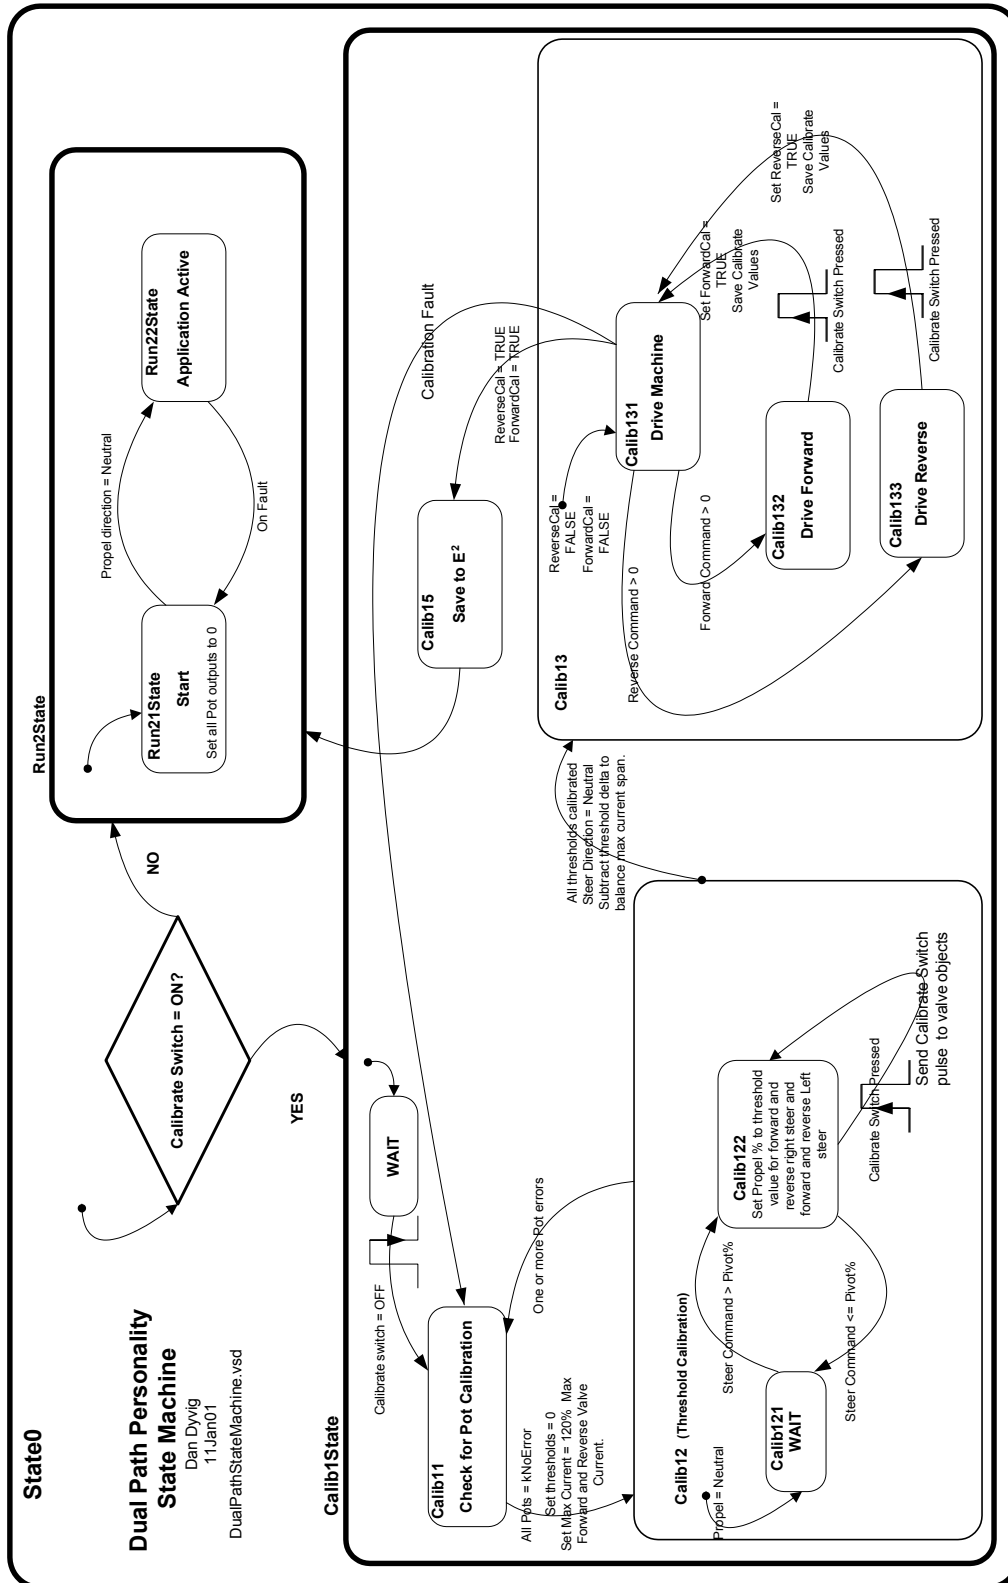

Fig 1. State Diagram
- D. Refer to figure 1 on the previous page and calibrate by performing the steps below in the order given :